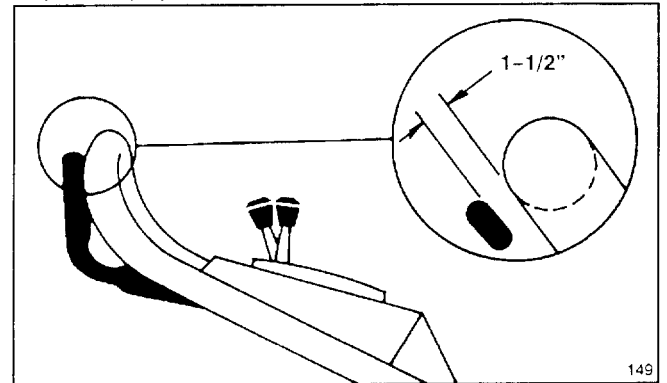

Figure 15
2. Lift control bar until some resistance is felt. Control bar should be 1-1/2" from handle when properly adjusted (Fig. 15).